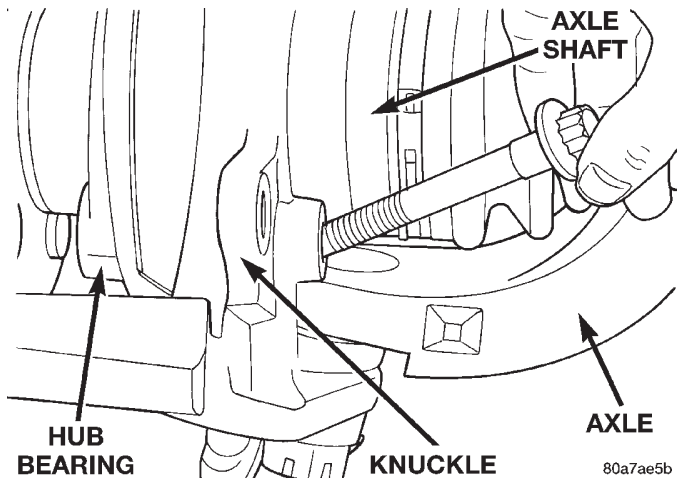
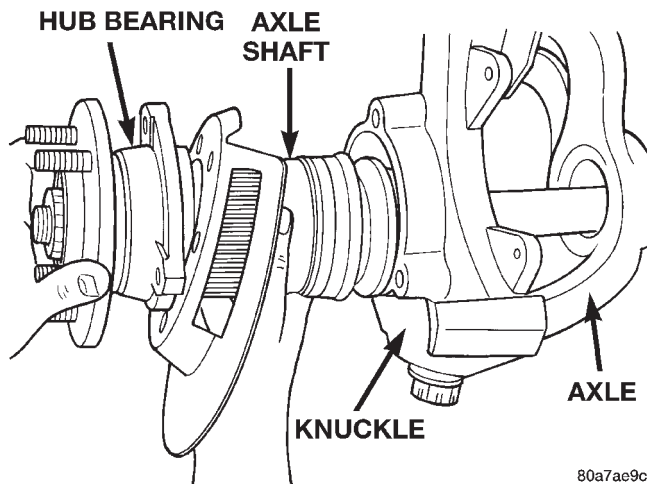

Fig. 21 Hub Bearing Bolts
Fig. 22 Hub Bearing and Axle Assembly
- (6) Remove the hub to knuckle bolts (Fig. 21).
- (7) Remove the hub from the steering knuckle and axle shaft, if necessary.
- (8) Remove hub bearing and axle shaft assembly (Fig. 22), or axle shaft from axle. **Avoid damaging the axle shaft oil seals in the axle housing.**